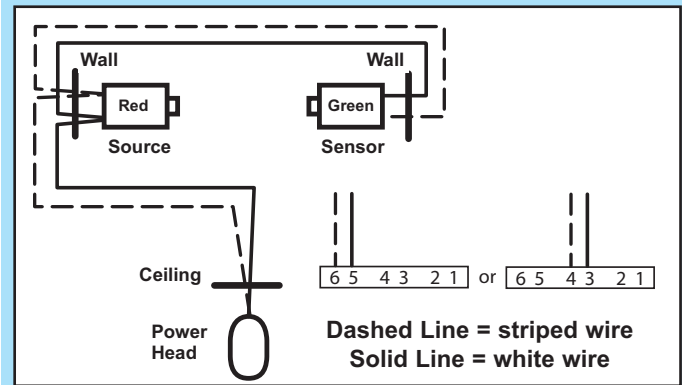

FIG. 4-5b Pre-Wired source and sensor wiring methods.
- Route wire from wall to Safety Beam sensors. (Fig. 4-5b).
- Route wire from ceiling to power head. (Fig. 4-5b).